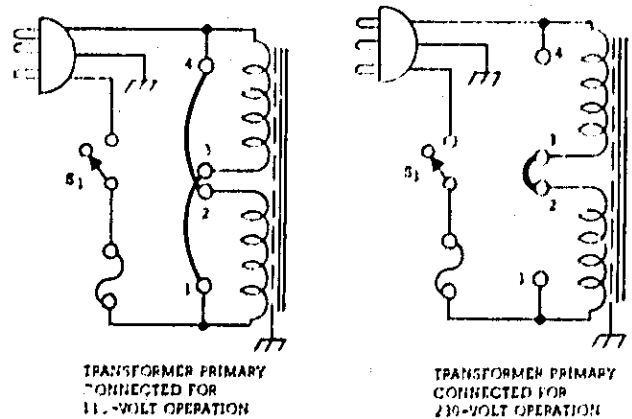

Figure 2-2. Input Power Transformer Connections
## 2-17 CONNECTIONS FOR 230 VOLT OPERATION (Figure 2-2)
- Remove the jumpers between taps 4-2 and 3-1. Solder a jumper between taps 3-2 on the input power transformer T1, see Figure 2-2.